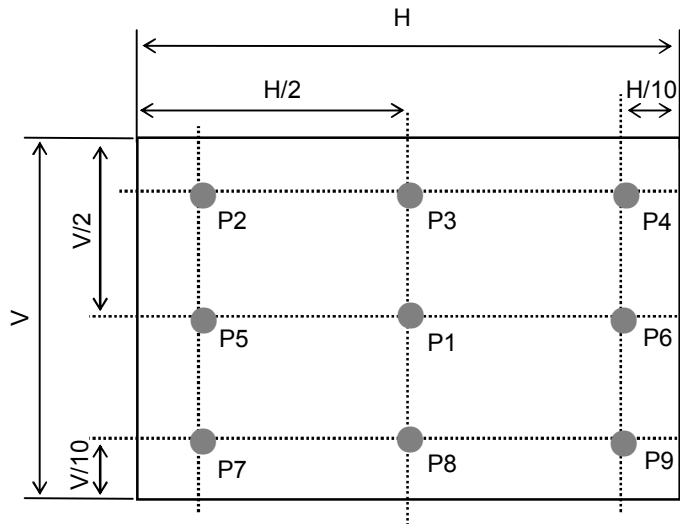

FIG. 2 Measure Point for Luminance
2. Surface luminance(L_{WH})is luminance value at Center 1 point(P1) across the LCD surface 50cm from the surface with all pixels displaying white. For more information see FIG 2. (By PR880)
For more information see FIG 2.